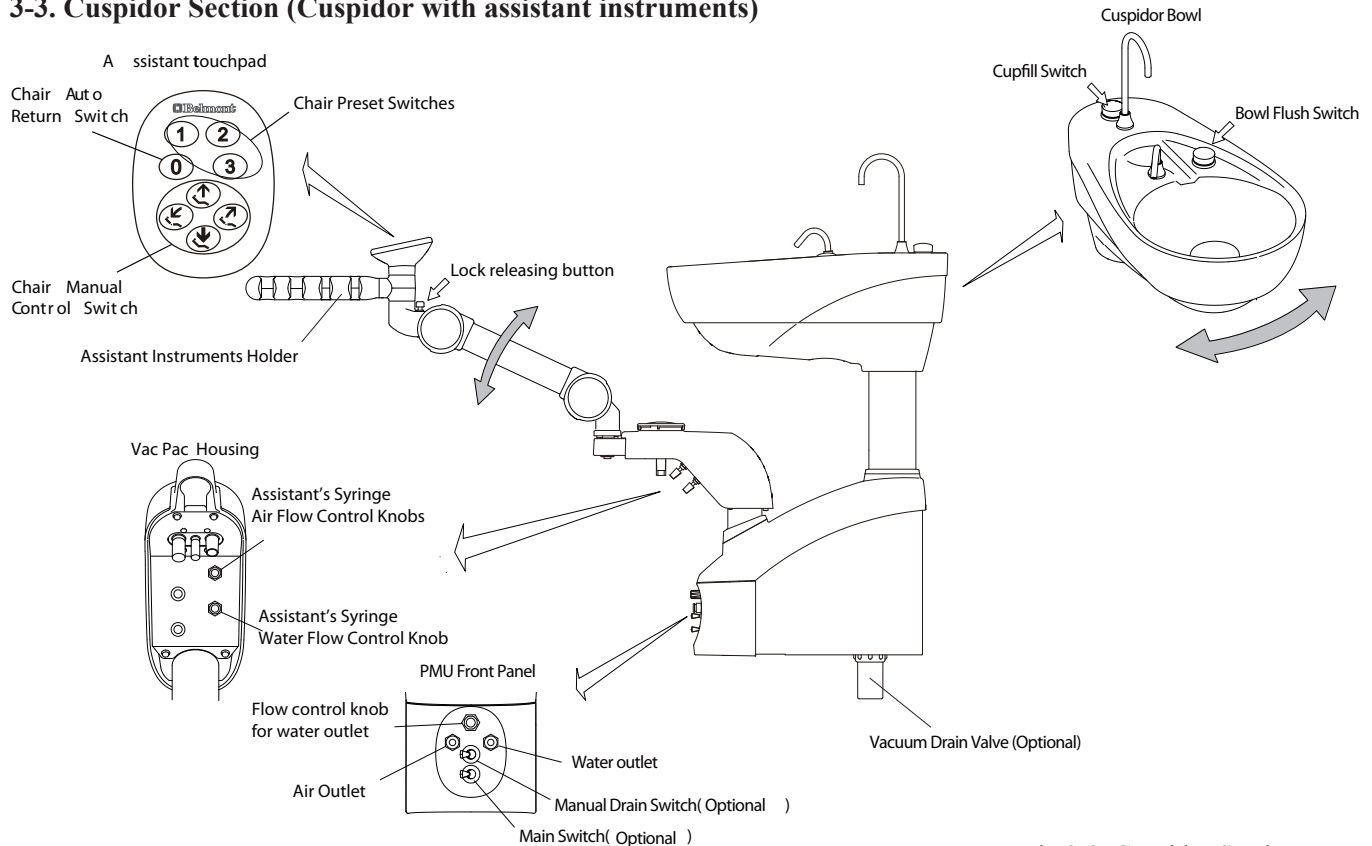

Fig.3-3 Cuspidor Section
(1) Assistant Touchpad (Fig.3-3)
(2) Vac Pac Housing (Fig. 3-3)
(3) Vacuum Pack height adjustment(Fig. 3-3)
(4) Front Panel (Fig. 3-3)
A. Water Outlet with flow control(Fig.3-3)
B. Service Water Outlet Control Knob (Fig.3-3)
C. Service Air Outlet (Fig.3-3)
D. Manual Drain Switch (Optional) (Fig. 3-3)
E. Main Switch (Optional) (Fig. 3-3)
- (5) Cuspidor bowl (Fig. 3-3)
- (6) Cuspidor bowl (Fig. 3-3)